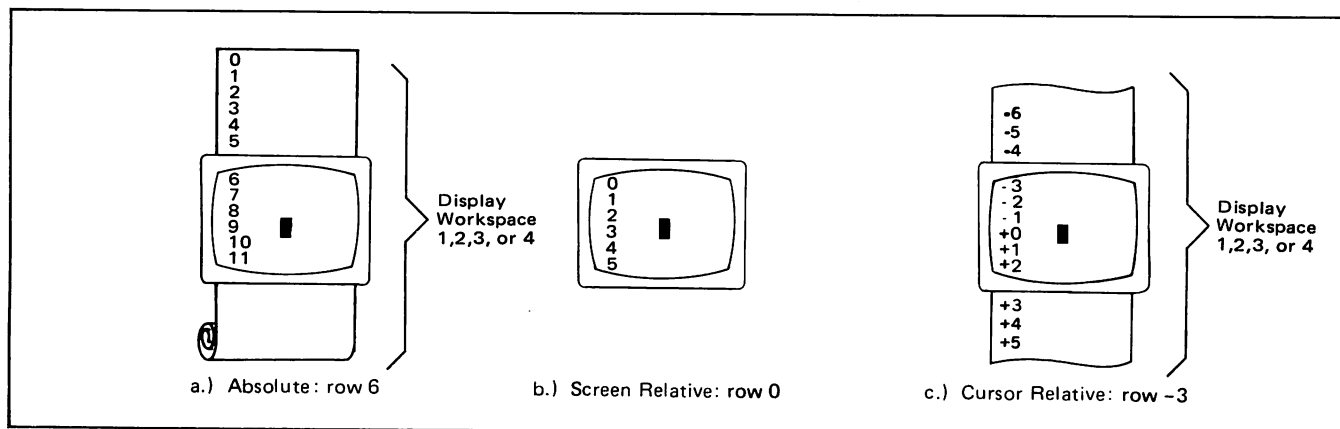

Figure 2-3. Row Addressing
**Row Addressing.** Figure 2-3 illustrates the way the three types of addressing affect row or line numbers. The cursor is shown positioned in the fourth row on the screen. Screen row 0 is currently at row 6 of display memory. In order to reposition the cursor to the first line of the screen the following three destination rows could be used: